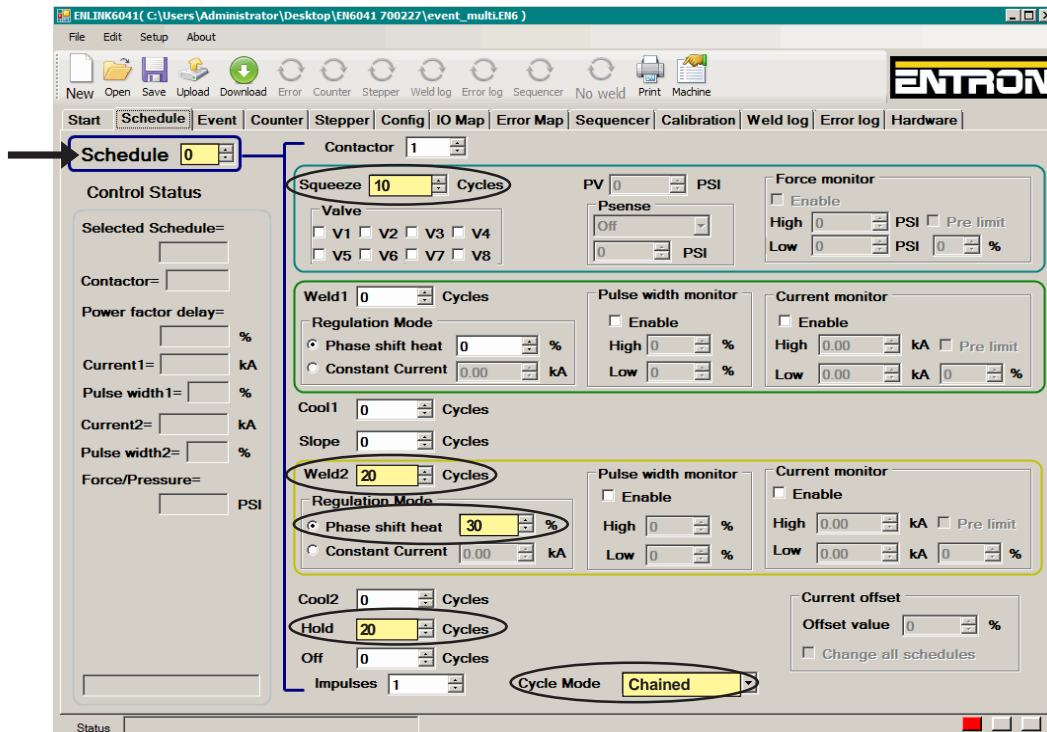

Figure 9-21. Edit SCHEDULES 0 through 2
- A. Edit SCHEDULES 0 through 3 as shown in Figures 9-21 and 9-22. Make sure to set CYCLE MODE to Chained for SCHEDULES 0, 1, and 2 and set CYCLE MODE to Non-repeat for SCHEDULE 3.